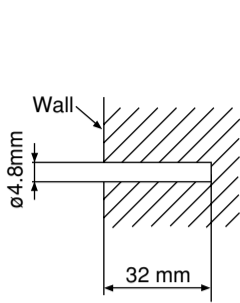
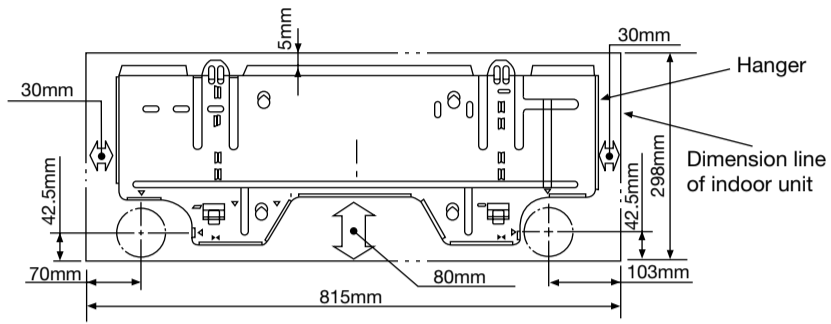

Fig. 3-1
Fig. 3-3
- (1) Make holes on the wall with dim $\phi 4.8\text{mm} \times 32\text{mm}$. (Fig. 3-1)
- (2) Insert the plugs.
- (3) Fix the hanger to the wall with 4.1 x 32mm screws no. ② horizontally. (Fig. 3-3)